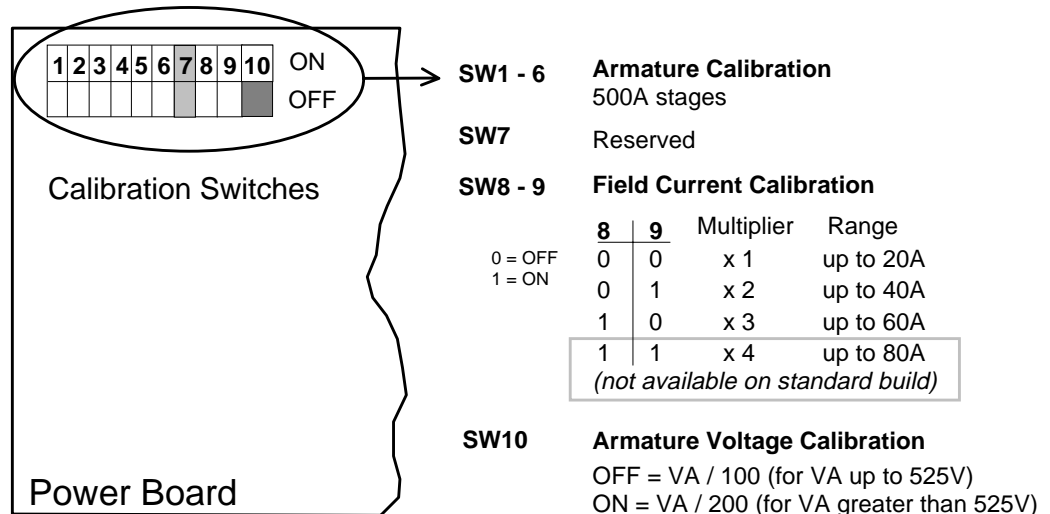

Figure 4-1 Calibration Switches
2. **Divide** the required field current setting by the value of the associated Multiplier to obtain a calculated field current setting. Refer to Figure 4-1 for the Range and associated Multiplier values.